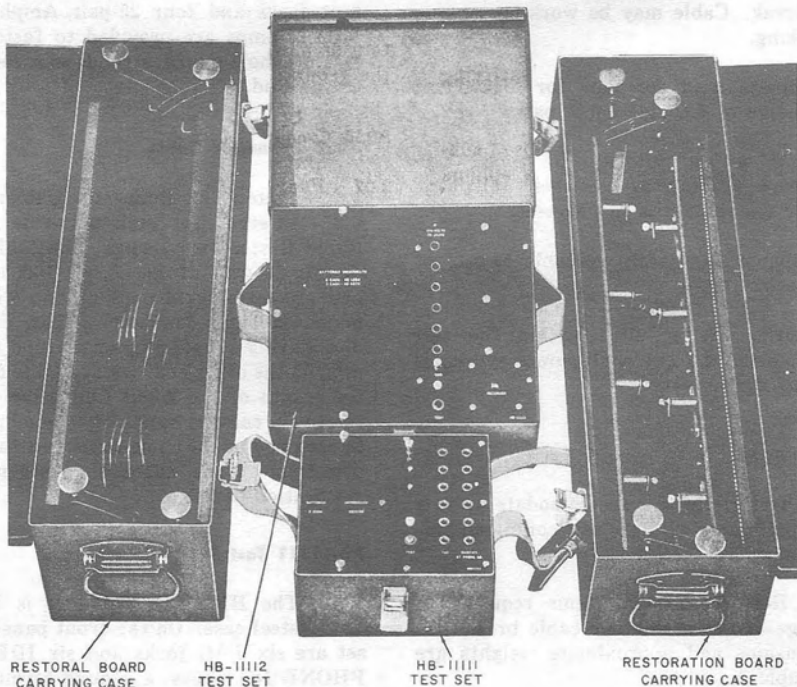

Fig. 1 — Major Components of Cable Restoral System
1.01 This section covers the description and use of the Neon Restoral Boards, the Rapid Restoration Boards, and the HB-11111 and HB-11112 Test Sets (Fig. 1).